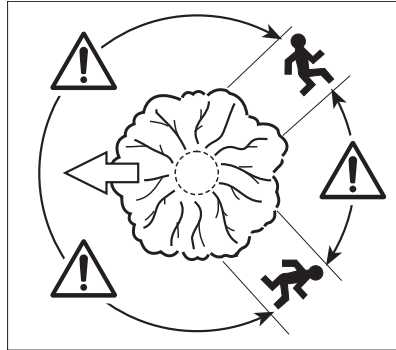

Fig. 25
3. An escape path should be planned and cleared as necessary before cuts are started. The escape path should extend back and diagonally to the rear of the expected line of fall (Fig. 25).